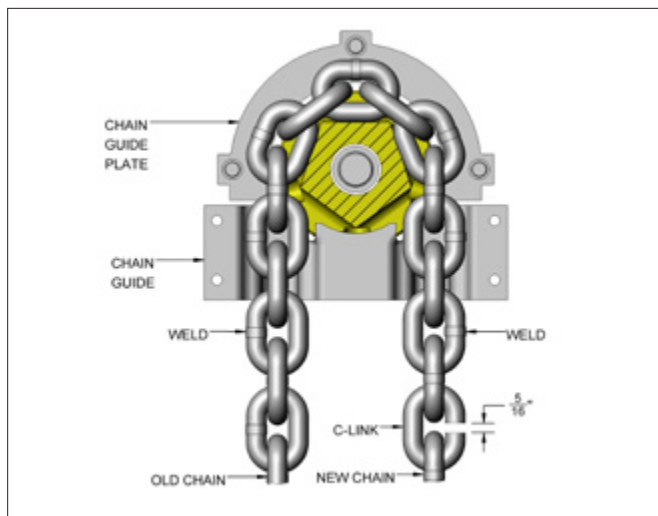

FIGURE 5-4. CHAINING HOIST
- Make a "C"-shaped chain link by grinding through one side of the end link of either the old or new chain. See Figure 5-4.